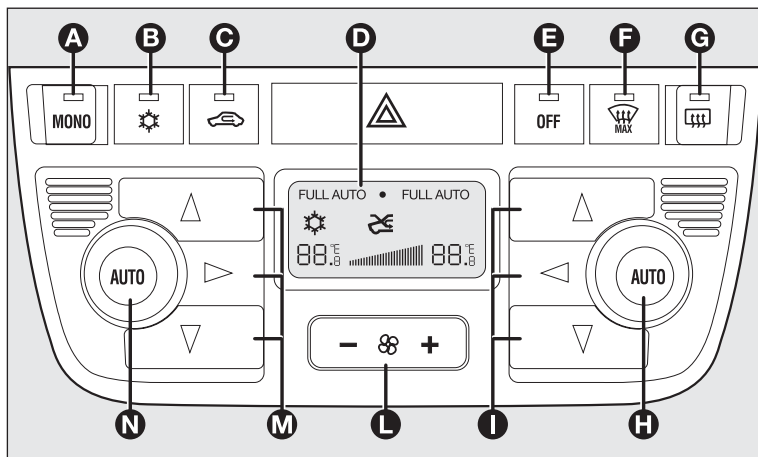

fig. 65
CONTROLS fig. 65
Separate operation of the set temperatures and air distribution is automatically restored by turning knob **H**-fig. 65 or pressing button **MONO A** again when the button led is on.
- ☐ forced switching on (air recirculation always on), indicated by the turning on of the led on button **C**-fig. 65 and symbol  on the display;